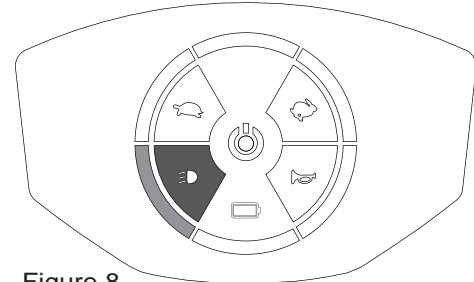

Figure 8
- Press button [] once to switch on the head-light and tail - light, the [] will be lighted on the panel. light will be off on the panel (figure 8)
- Switch off by pressing the button again, the [] light will be off on the panel (figure 8)